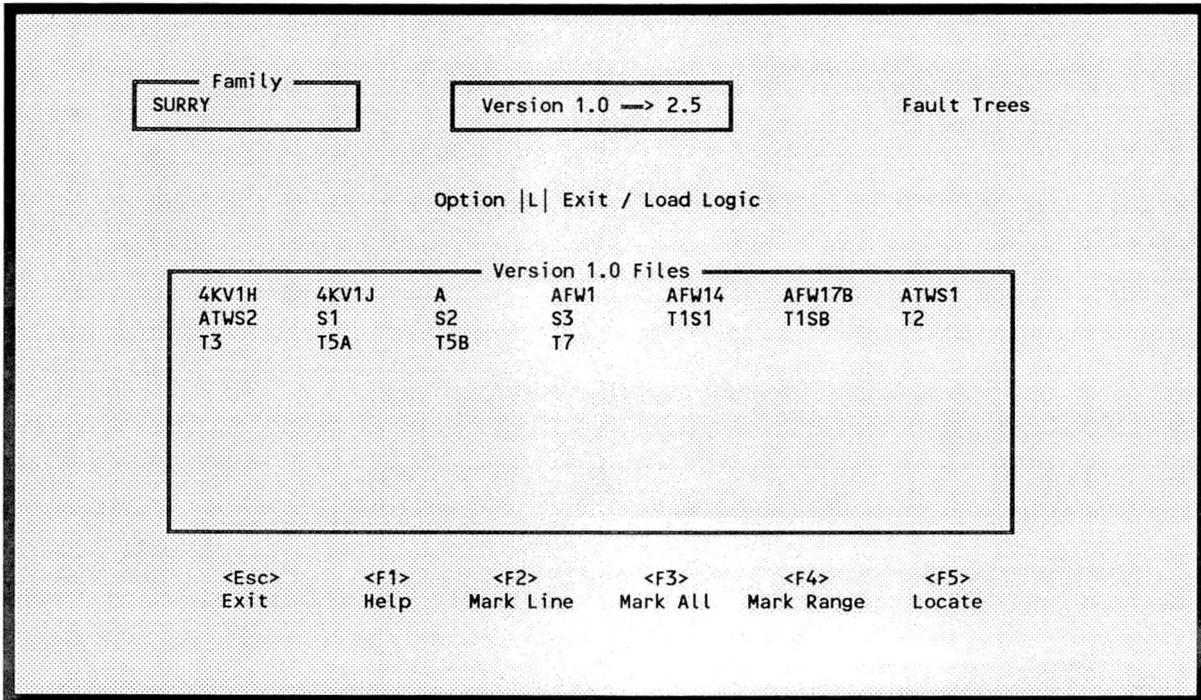

Figure 334. Fault tree selection screen.
10.5.2.2 Fault Trees. This option allows you to convert fault tree logic generated in Version 1.0 to Version 2.5. Version 1.0 of IRRAS stored this information in files with a ".TRE" extension, one ".TRE" file per fault tree. When you invoke this option, Figure 334 will be displayed, listing all 1.0 files with the ".TRE" extension. To invoke this option for a single logic file, enter an <L> in the option field, highlight the desired file name, and press <Enter>. To invoke this process for a group of logic files, mark the desired files using the function keys F2, F3, and F4, enter an <L> in the option field, and press <Enter>. To invoke this option for all logic files, clear all marked entries, enter an <L> in the option field, and press <Enter>. A message **Process all records? (Y/N)** will appear at the bottom of the screen. Type a <Y> to convert all files, or type an <N> to terminate the conversion.
10.5.2.3 Cut Sets (FT). This option allows you to convert system cut sets generated in Version 1.0 to Version 2.5. Version 1.0 of IRRAS stored this information in files with a ".CUT" extension, one ".CUT" file per system. When you invoke this option, a screen similar to the one shown in Figure 334 will be displayed, listing all files with the ".CUT" extension. To invoke this option for a single cut set file, enter an <L> in the option field, highlight the desired file name, and press <Enter>. To invoke this process for a group of cut set files, mark the desired files using the function keys F2, F3, and F4, enter an <L> in the option field, and press <Enter>. To invoke this option for all cut set files, clear all marked entries, enter an <L> in the option field, and press <Enter>. A message **Process all records? (Y/N)** will appear at the bottom of the screen. Type a <Y> to convert all files, or type an <N> to terminate the conversion.
10.5.2.4 Sequence Cut Sets. This option allows you to convert sequence cut sets generated in Version 1.0 to Version 2.5. Version 1.0 of IRRAS stored this information in files with a ".CUT" extension, one ".CUT" file per sequence. When you invoke this option, a screen similar to the one shown in Figure 334 will be displayed, listing all files with the ".CUT" extension. To invoke this option for a single cut set file, enter an <L> in the option field, highlight the desired file name, and press <Enter>. To invoke this process for a group of cut set files, mark the desired files using the function keys F2, F3, and F4, enter an <L> in the option field, and press <Enter>. To invoke this option for all cut set files, clear all marked entries, enter an <L> in the option field, and press <Enter>. A message **Process all records? (Y/N)** will appear at the bottom of the screen. Type a <Y> to convert all files, or type an <N> to terminate the conversion.